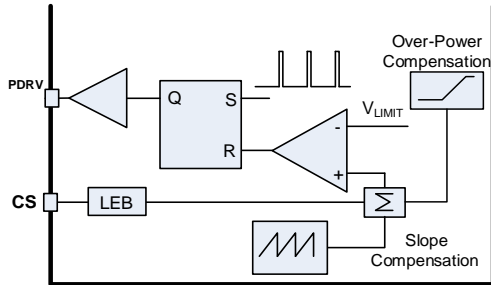

Figure 15: Peak Current Comparator Circuit Logic
Figure 15 shows the peak current comparator logic.
When the sum of the voltage on the current-sense resistor, the voltage on the over-power compensation resistor, and the voltage generated by the slope compensation block reach V_{PEAK} , the comparator goes high to reset the RS flip-flop, and DRV is pulled down to turn off the MOSFET (see Figure 15). The maximum current limit is $V_{IPK-MAX}$. The slope compensator is S_{RAMP} , and at low line the over-power compensation is zero. Given a certain margin, V_{PEAK} is equal to $0.95 \times V_{IPK-MAX}$ under full loads. The voltage on the current-sense resistor can be calculated with Equation (11):